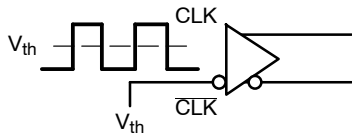

Figure 10. Differential Input Driven Single-Ended
**Differential Input Driven Single-Ended** (see Figures 10 & 12) (Note 4)